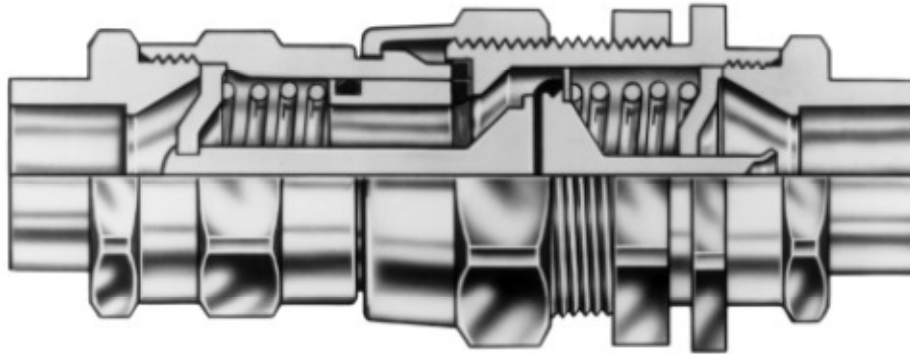

Figure 8 – Self Sealing Coupling in Closed Position
4. **Figure 8** contains an illustration of the self-sealing couplings.